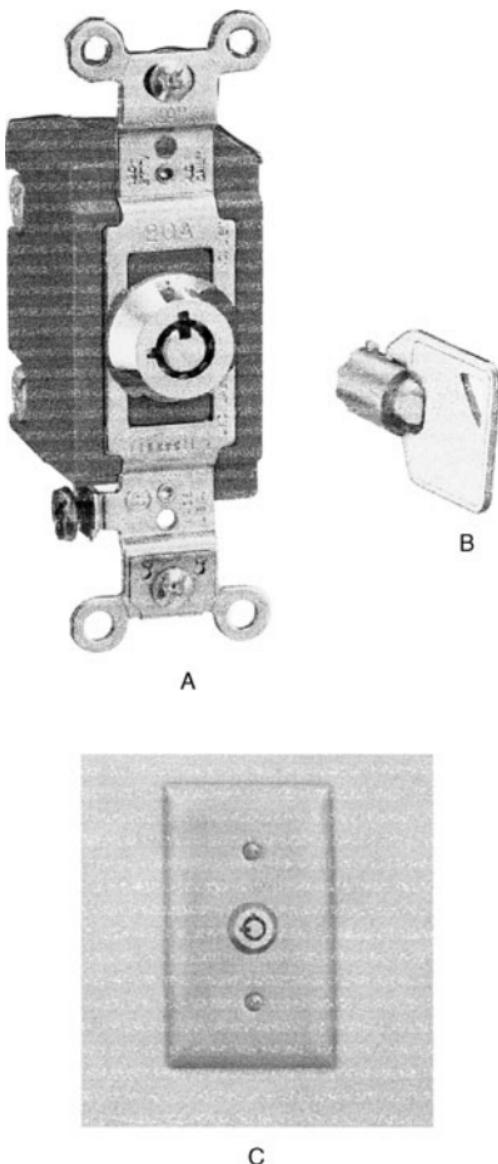

FIGURE 8-38. (A) Barrel-keyed locking switch.
*Barrel locking switches* provide maximum tamper resistance for demanding security needs. See Figure 8-38. This type of switch offers the best in pick-resistant switches. The six-point tumbler cylinder provides added security to supply override protection from unwarranted access.